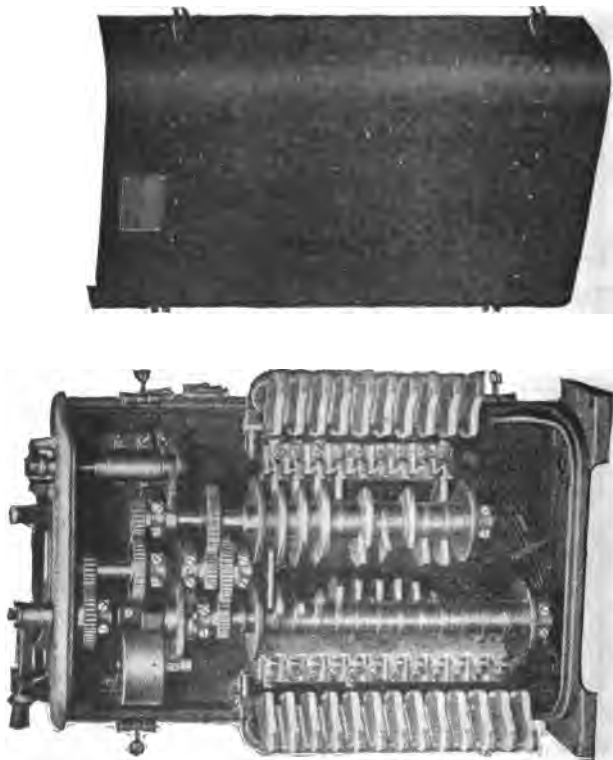

Fig. 514. Master Controller.
61. THE MASTER CONTROLLER (Fig. 514) contains two movable cylinders, which are geared together, and stationary contacts for each mounted on insulation supports. The function of the controller in general is to supply current at the will of the engineer to the train cable for operating the reversers and contactors. The primary or slow-speed cylinder operates the contactors which produce motor combinations. The secondary of high speed cylinder operates those contactors which cut out the main motor resistance. The secondary cylinder is geared to primary at the ratio of about three to one. Geared to cylinders is a governor device, by means of which the movement of the controller handle and the cylinders is checked when current through the motors exceeds a certain amount. The controller has a separate reverse cylinder, and there is a separate handle for this. The reverse handle can be thrown only when the controller handle is in the "off" position. The "off" position of the controller handle is indicated and is the extreme forward position of handle. There are twenty-four operating notches and an "off" point on the controller dial ring. A latch on the handle engages the notches on the dial ring and has to be released in moving from notch to notch. The first ten operating notches are for series, the next seven for series parallel and the next seven for parallel operation of motors. The tenth notch is full series, the seventeenth full series parallel and the twenty-fourth full parallel position of motors, and at all other points motors will have resistance in circuit.